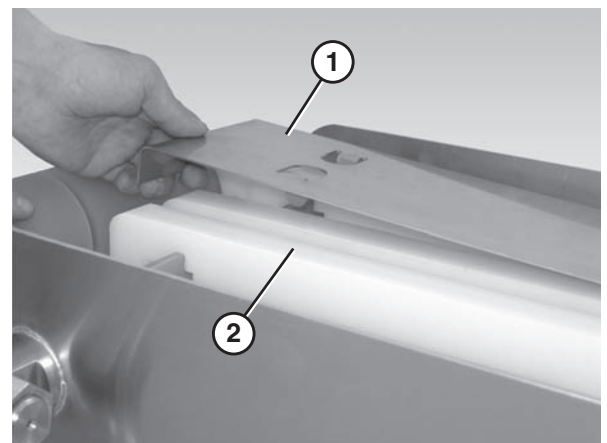

Figure 10
2. Place the sheet bed plates (**Figure 10, item 1**) over the wear strips (**Figure 10, item 2**).